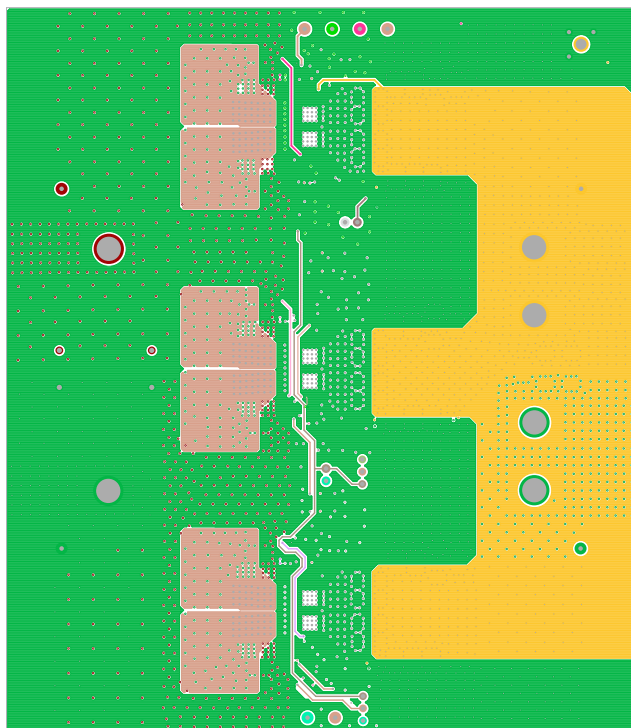

Figure 11. Layer 5
2. Phase 1 and Phase 2 pads are switching nodes that generate switching noise. Keep these pads under the module. For noise-sensitive applications, Renesas recommends keeping phase pads only on the top and inner layers of the PCB; do not place phase pads exposed to the outside on the bottom layer of the PCB. To improve the thermal performance, the phase pads can be extended in the inner layer, as shown in Phase 1 and 2 pads on layer 3 (Figure 11) for this 90A evaluation board. Make sure that layer 2 and layer 4 have the GND layers to cover the extended areas of phase pads at layer 3 to avoid noise coupling.